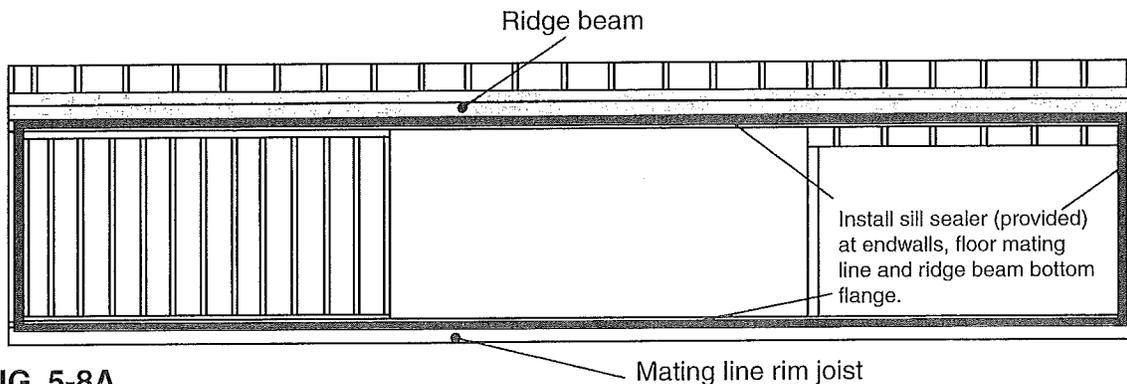

FIG. 5-8A
3. Install sill sealer insulating material (provided) around the ceiling (to the ridge beam at the ceiling panel line), endwalls and floor mating line. Fasten sill sealer with staples or nails. See figure 5-8A.